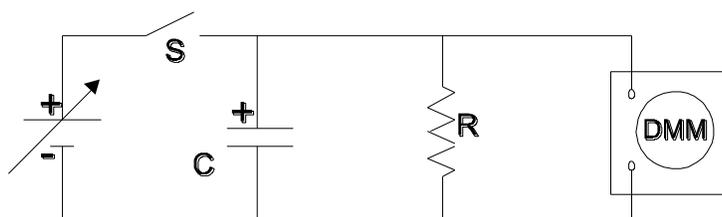

Figure 1
You will measure the voltage across a capacitor as a function of time as the capacitor discharges through a resistor. The simple circuit you will use is shown in Figure 1. The capacitor,  $C$ , is an electrolytic capacitor of approximately  $1000\ \mu\text{F}$  or  $10^{-3}\text{F}$ , with a manufacturing tolerance of  $\pm 20\%$ . The resistance of the resistor,  $R$ , is  $100\text{k}\Omega$  ( $10^5$  ohms), with a tolerance of  $\pm 5\%$ . DMM represents the digital multimeter used to measure DC voltage across the capacitor. The idea is simple: by closing switch  $S$ , you will charge up the capacitor to approximately 10 volts using the adjustable power supply. The capacitor is connected in parallel with a resistor, so that when you open the switch the capacitor will begin discharging through the resistor. Using a stopwatch and multimeter, you will record the capacitor voltage every 20 seconds until the capacitor has almost completely discharged. The goal is to examine the *exponential decay* of this  $RC$  circuit.
2. Again, make sure the capacitor is fully discharged. Assemble the circuit shown in Fig. 1 using banana plug cables. **NOTE THE CAPACITOR HAS + AND – LEADS.** Be sure the + end is connected to the positive (RED) connector on the power supply and the – end is connected to the negative (BLACK) connector. **THE CAPACITOR WILL EXPLODE IF LEFT CONNECTED BACKWARDS TO THE POWER SUPPLY.**